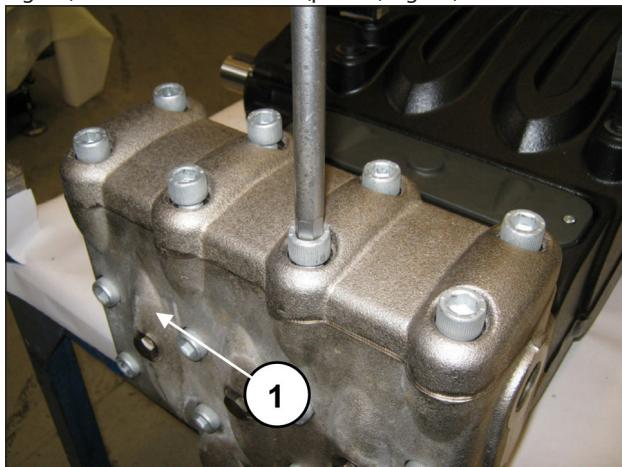
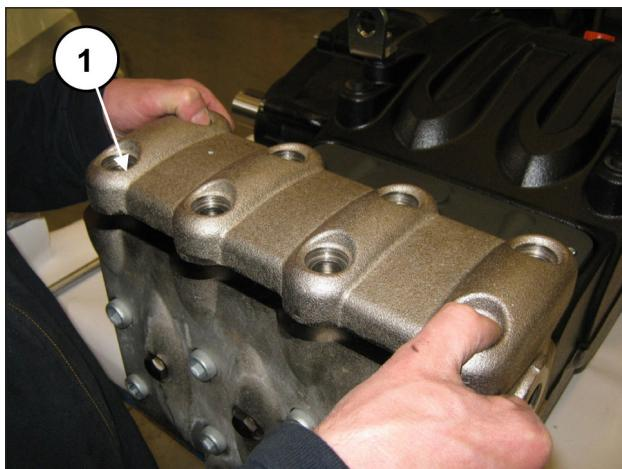

Fig. 96
Fig. 97
Unscrew the 8 M16x55 screws of the valves cover (pos. ①, Fig. 96) and remove the cover (pos. ①, Fig. 97).